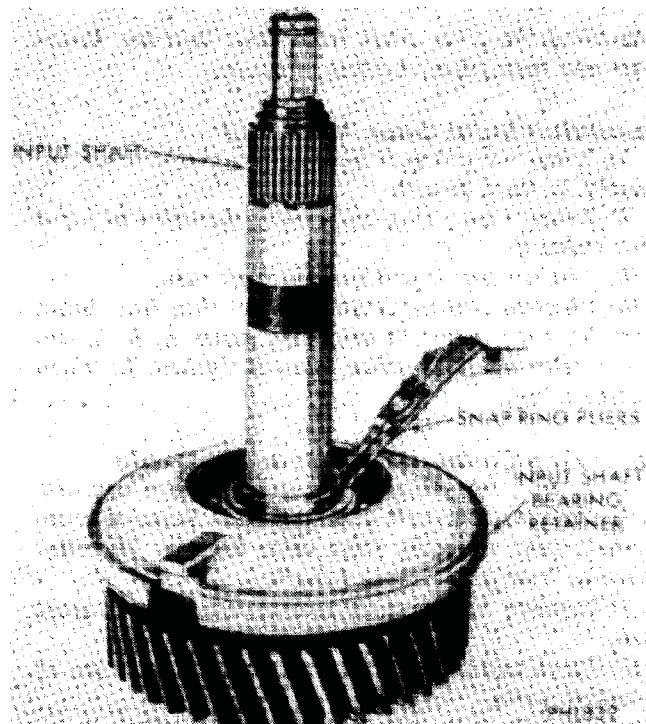
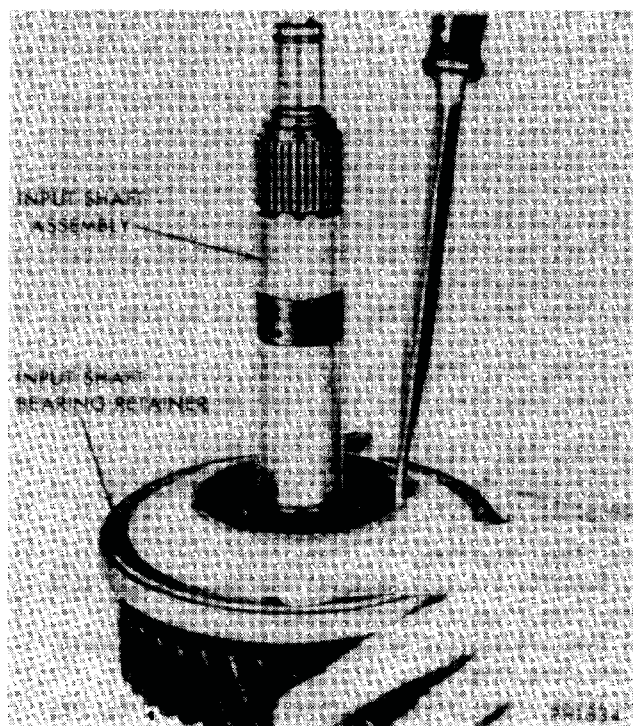

Fig. 17—Removing Input Shaft Bearing Retainer
Fig. 18—Removing Lock Ring
- (1) Slide thrust washer and spacer from shaft.
- (2) Using snap ring pliers, remove retainer from input shaft (Fig. 17).
- (3) Tap shaft out of low speed gear. **Observe two thrust washer pins in shaft.**
- (4) With screwdriver remove lock ring out of bearing retainer (Fig. 18). Tap bearing out of retainer bore.
- (5) Remove roller bearings (15) from end of input shaft.
- (6) Remove and discard "O" ring from end of shaft.
- (7) Clean and inspect all components. Replace if worn or damaged.